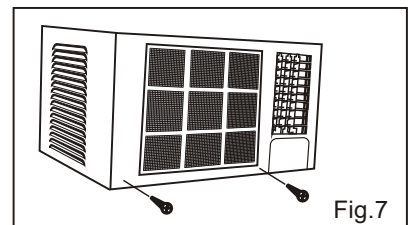

Fig.7
3. Remove screws at the bottom of the front panel. (Fig.7)
10. Reinstall the retaining bracket, front panel and mounting screws. (Fig.7,8,13)